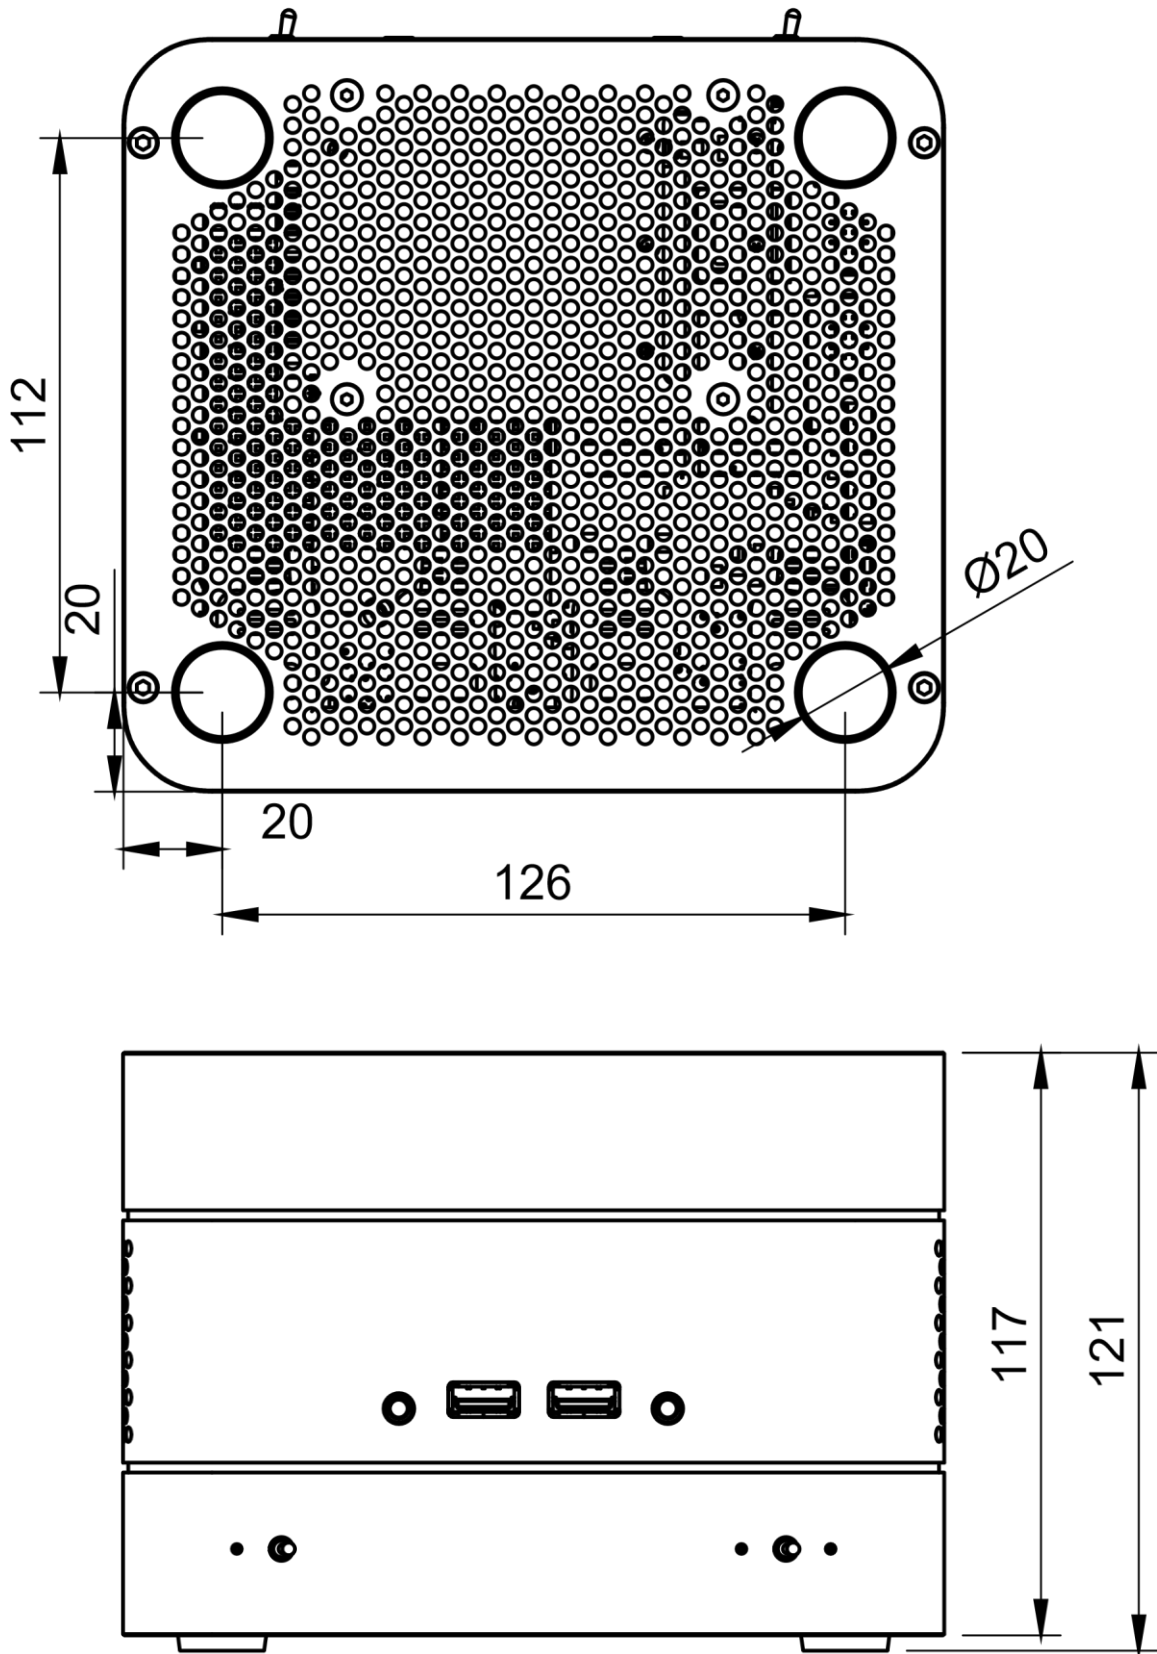

Figure 19. Reference chassis dimensions
- Figure 19. Reference chassis dimensions